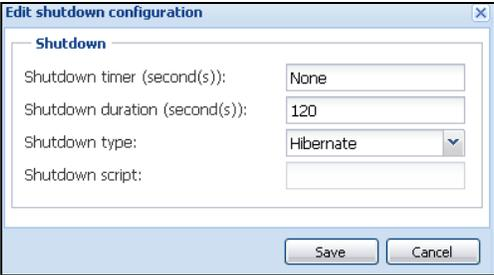

Figure 107. Edit Shutdown Configuration Dialog Box
- The IPM default configuration is available from **Settings > Shutdown > Edit Shutdown Configuration** (see Figure 107).